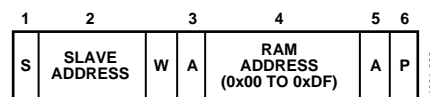

Figure 29. Setting a RAM Address for Subsequent Read
The SMBus specification defines several protocols for different types of read and write operations. The following abbreviations are used in Figure 29 to Figure 37:
- To write a register address to the RAM for a subsequent single byte read from the same address or for a block read or a block write starting at that address, as shown in Figure 29.